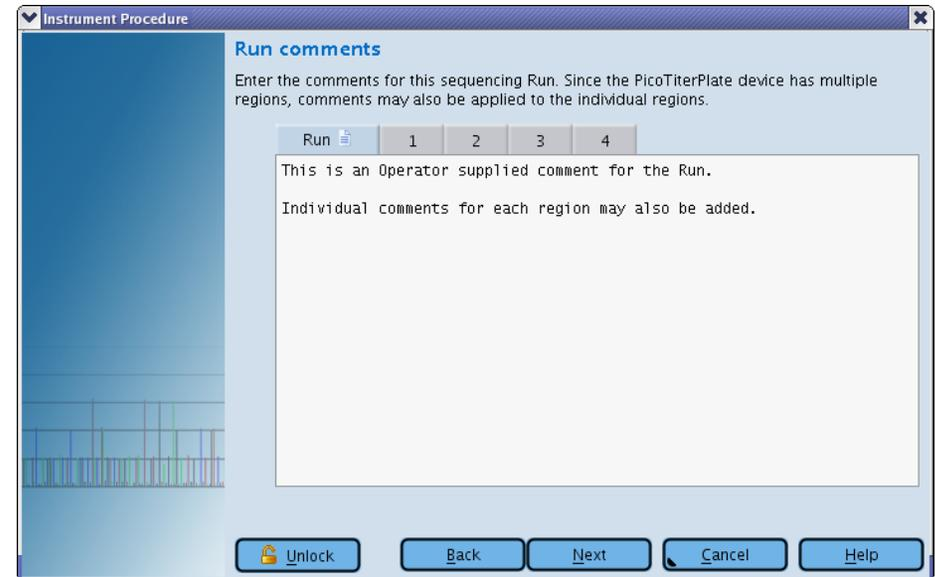

Figure 27: The Run Wizard's eighth window: Run comments
- This opens the Run Wizard's eighth window: Run comments (Figure 27).